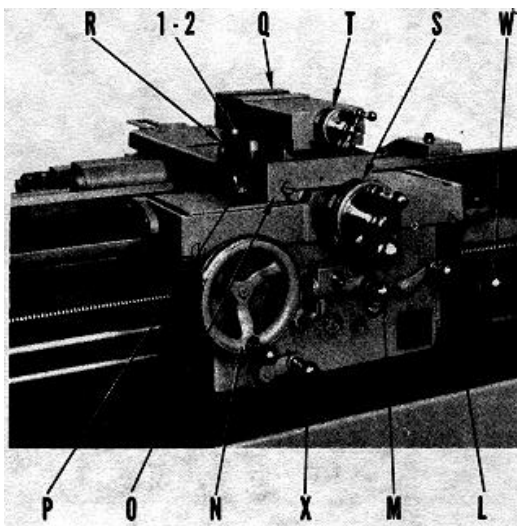

Fig. 9
The Regal Apron (Figure 9) is a double-walled one piece casting in which all shafts and gears are supported on both ends. This unit is bolted securely to the carriage and contains the controls, gears, and other mechanisms for feeding the carriage and cross slide by hand or power. It also contains the half nuts controlled by lever (L) which engages the leadscrew for thread chasing.